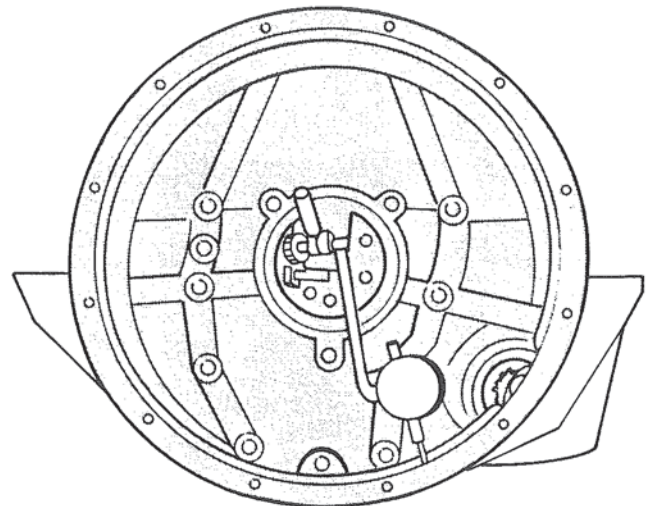

Figure 55. Measuring Flywheel Housing Run-out.
- A. Mount dial indicator on crankshaft. Figure 55.